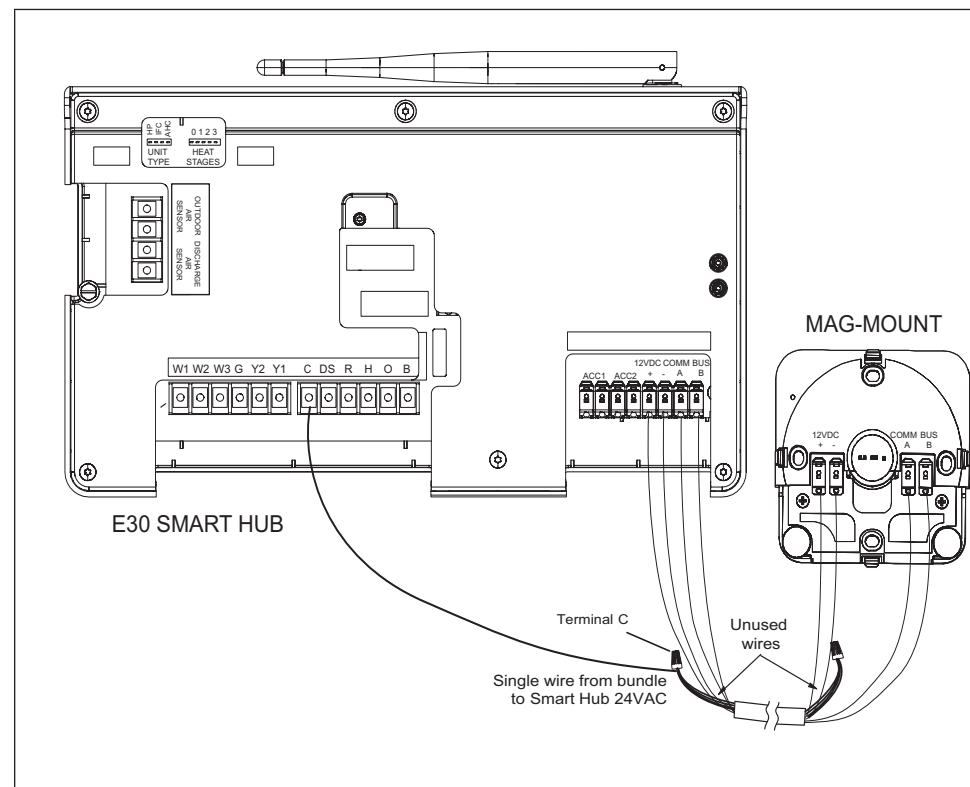

Figure 6. Thermostat Wire Termination (Electrical Noise)
- Use wire nuts to bundle the unused wires at each end of the cable. A single wire should then be connected to the indoor unit end of the wire bundle and attached to the “C” terminals as shown in “Figure 6. Thermostat Wire Termination (Electrical Noise)”.